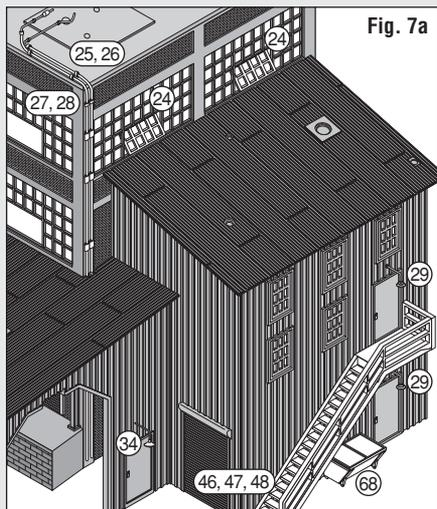

Fig. 7a
Left Side (Fig. 7a): Small Light (34), Window Inserts 2x (24), Door Light 2x (29), Water-in Pipe Assembly (27, 28), Water-out Pipe Assembly (25, 26), Stair Assembly (46, 47, 48), Dumpster (68)